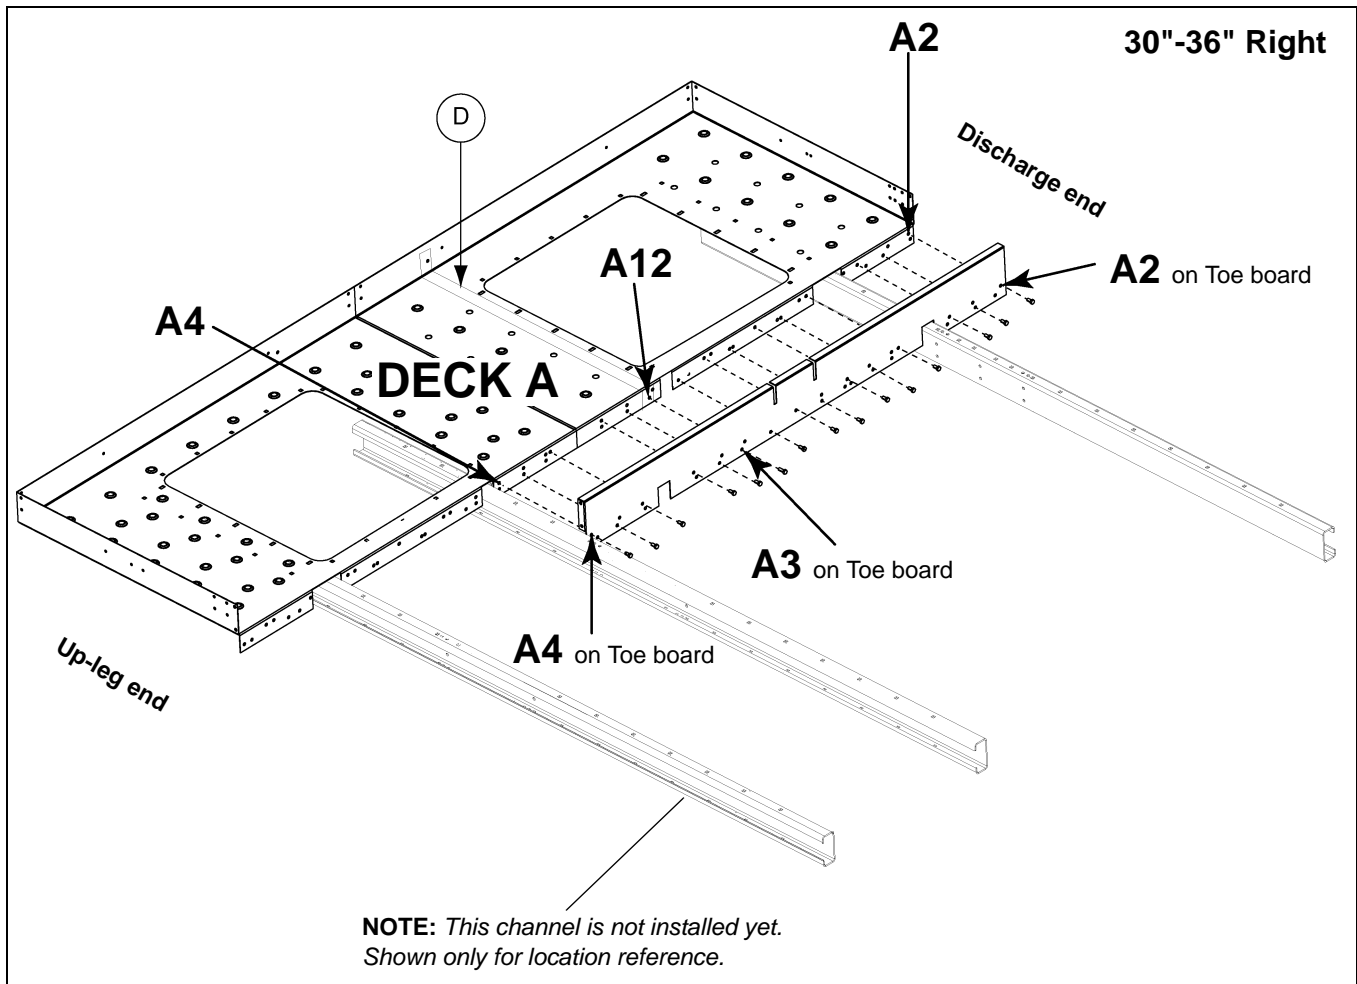

Figure 8I
- e. **For both 30" and 36"** - Deck hole **A2** to toe board hole **A2**. (See Figure 8I on Page 55.)
NOTE: At this time, the head platform hatch deck support (HP36HDS) (D) should be installed **UNDER** Deck A. Line this up with hole **A12** on the deck flange near hatch opening and install at the same time attaching deck to toe board. (See Figure 8I on Page 55.)
- b. Deck hole **A4** to toe board hole **A4**. (See Figure 8I on Page 55.)